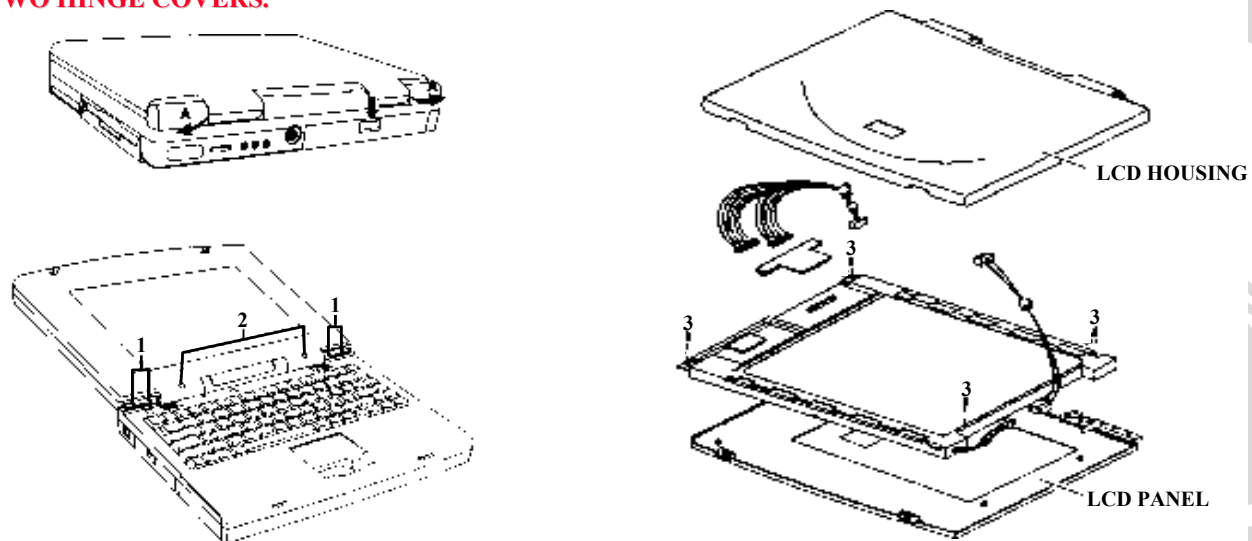

FIGURE 7-14. LCD DISASSEMBLY/REASSEMBLY
1. REMOVE THE HINGE COVERS BY INSERTING A FLAT SCREWDRIVER TO FORCE THEM OUT (FIGURE 7-14 ARROW).
3. REMOVE THE FOUR SCREWS (FIGURE 7-14 #1) UNDER THE HINGE COVERS AND THE TWO SCREWS UNDER THE RUBBER CUSHIONS (FIGURE 7-14 #2).
6. REMOVE THE FOUR SCREWS (FIGURE 7-14 #3) SECURING THE LCD TO THE LCD PANEL AND LIFT THE LCD FREE.
1. ALIGN THE LCD WITH THE LCD PANEL AND SECURE WITH FOUR SCREWS (FIGURE 7-14 #3).
4. REPLACE THE SIX SCREWS (FIGURE 7-14 #1 & #2).